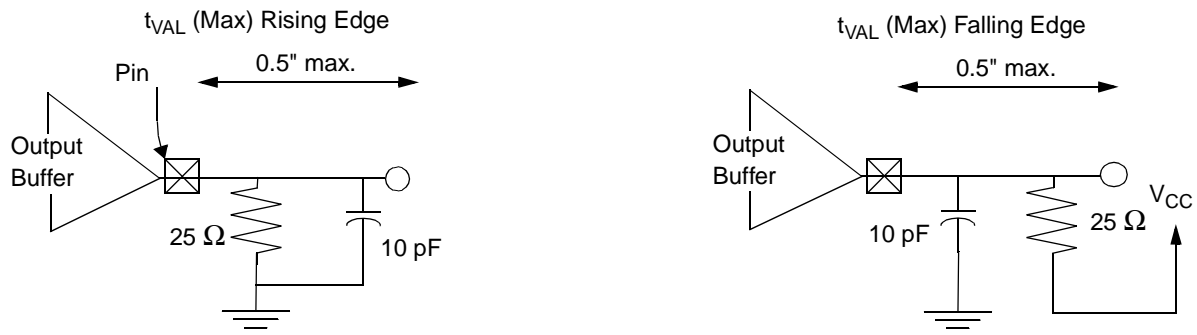

Figure 8-15. Load Circuits for Maximum Time Measurements
2. Minimum times are evaluated with same load used for slew rate measurement (as shown in note 3 of Table ); maximum times are evaluated with the load circuits shown in Figure 8-15, for high-going and low-going edges respectively.